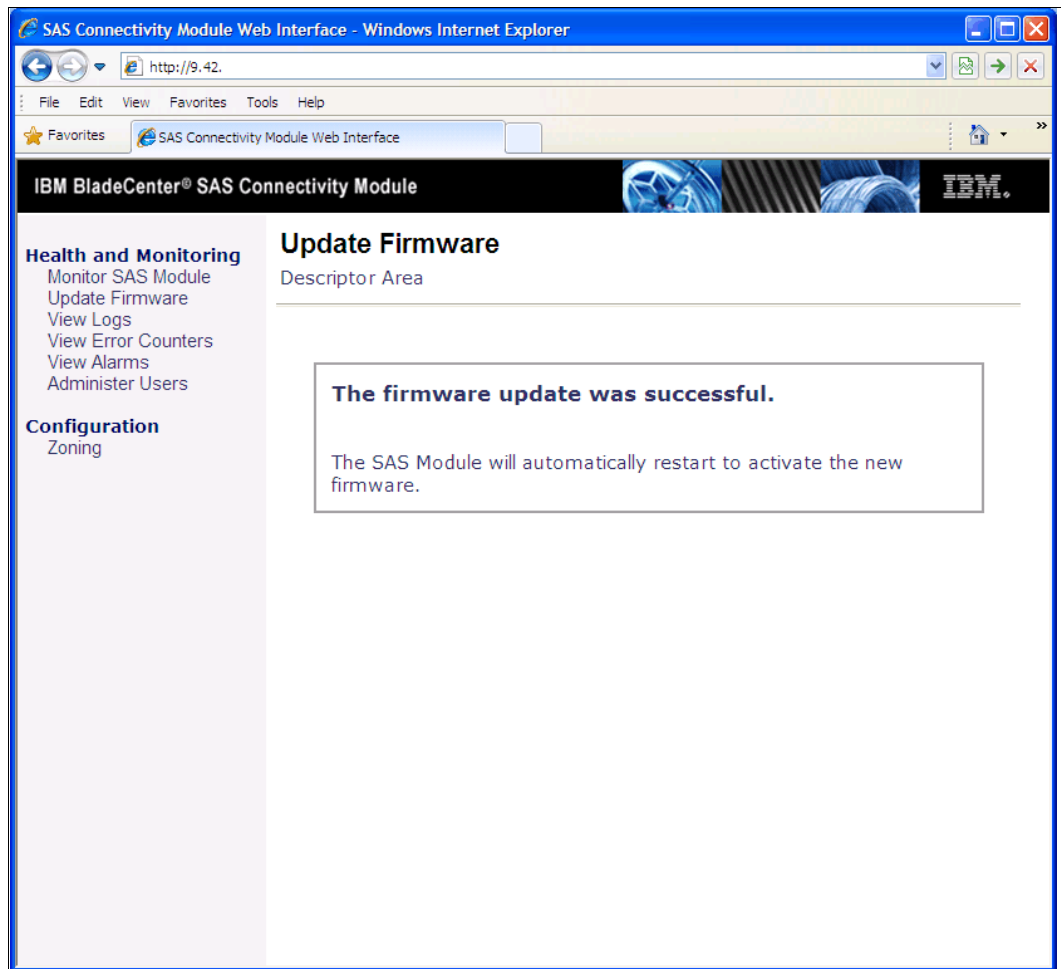

Figure 16-11 SAS Connectivity Module - update successful
6. Click **OK** or **Cancel**. If the installation of the new firmware file is successful, an installation confirmation window opens, as shown in Figure 16-11. If there are errors during the installation, an error message window opens.